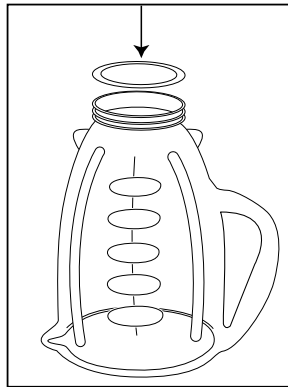

FIGURE 2
3. Place sealing ring over jar opening. (*Figure 2*)